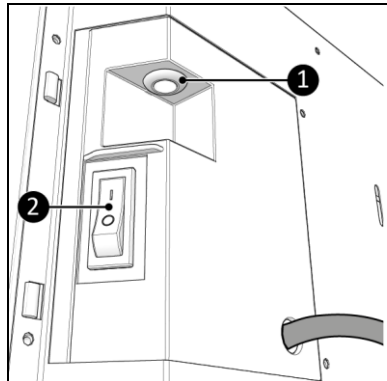

Figure 16
1. Make sure the ON/OFF switch is in the OFF position (Figure 16, pos. 2).
2. Connect the temperature sensor connector to the sensor plug (Figure 16, pos. 1).